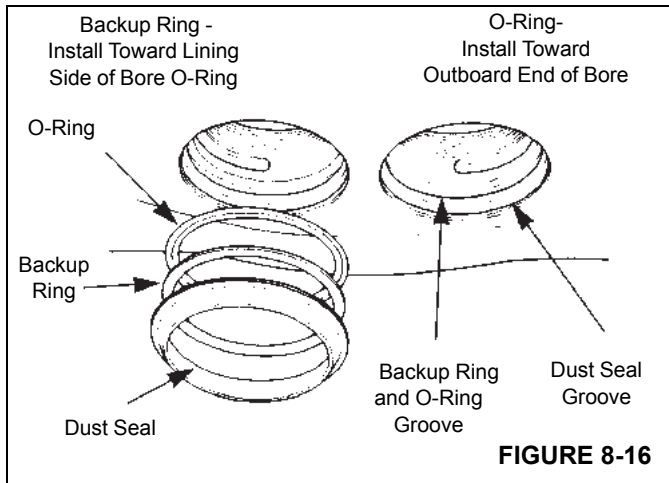

FIGURE 8-16
3. Install a new dust seal in the top groove of the bore (Figure 8-16).